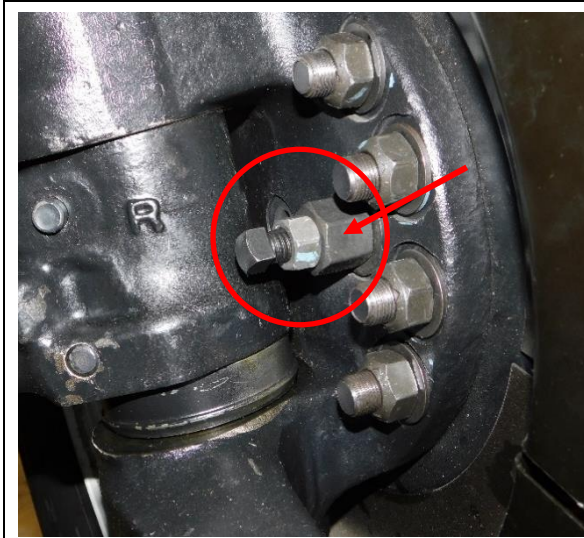

Figure 1 – Right Front Stop Bolt Assembly
2. Start the engine and turn the steering wheel all the way to the left in order to access the right (passenger side) Stop Bolt Assembly. (See Figure 1.) Shut the engine off after turning the steering wheel.
8. Start the engine and turn the steering wheel all the way to the right in order to access the left (driver side) Stop Bolt Assembly. (See Figure 1.) Shut the engine off after turning the steering wheel.